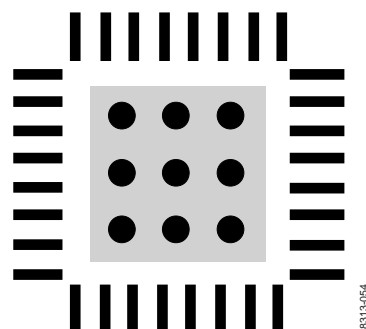

Figure 56. Exposed Pad Layout Example, Top View
- Vias should be placed to connect all layers of copper, allowing for efficient heat and energy conductivity. For an example, see Figure 56, which has nine vias arranged in a 3 inch \times 3 inch grid in the pad area.